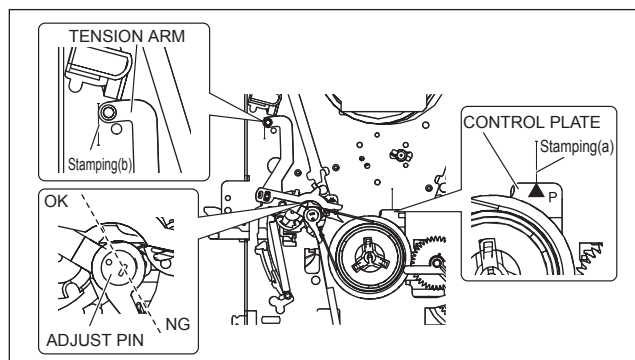

Fig.4-2a
- (1) Play back the back tension cassette gauge (A).
- (2) Check that the indicated value on the left side gauge is within the specified value (G).
- (3) If the indicated value is not within the specified value (G), perform the adjustment in a following procedure.(See Fig.4-2a.)
- d) Rotate the reel disk (S) by about one turn clockwise and make sure that the round hole of the adjustment pin is located in the "OK" range. If it is outside this range, restart the adjustment from the beginning.